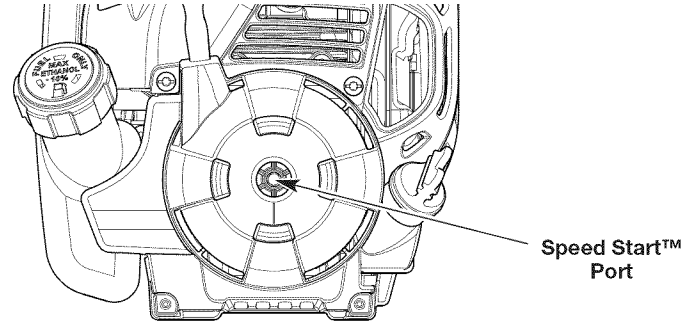

Fig. 12
5. Insert the Speed Start™ accessory into the Speed Start™ port (Fig. 12). Refer to the *Operation* section of the Speed Start™ accessory operator's manual.